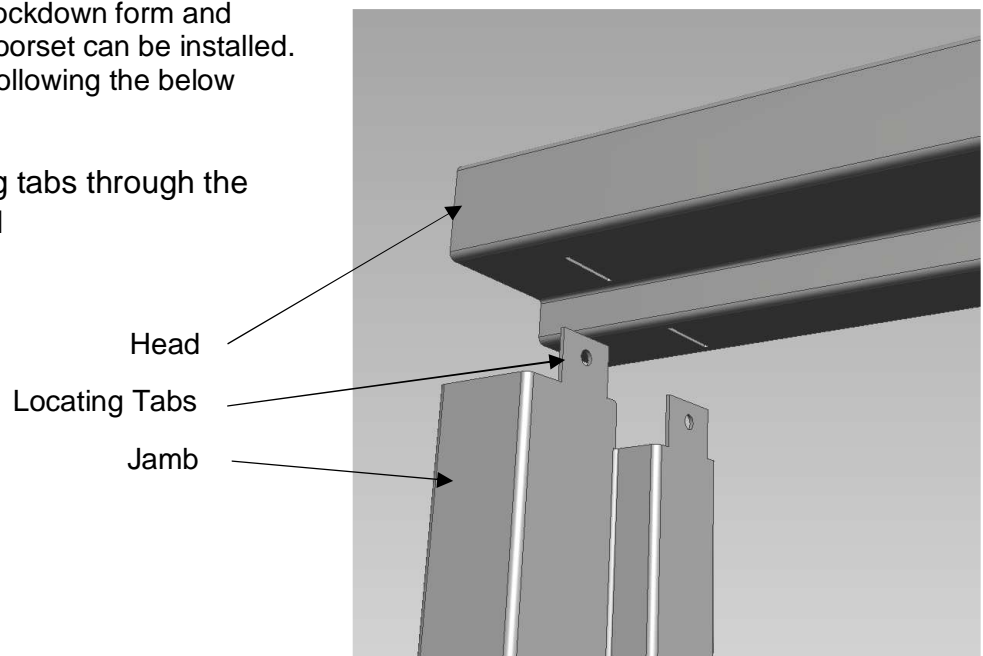

Fig 1
- Push the two jamb locating tabs through the slits in the frame head. Fig 1